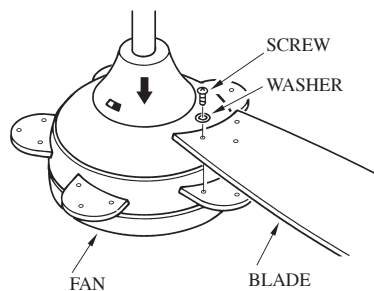

FIG.7
1. Attached each blade to the fan body using the blade screws & washers. Tighten them securely (see FIG 7).